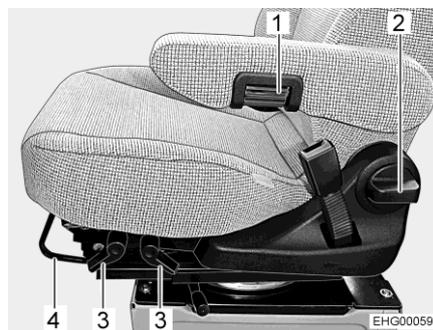

Fig. 14 Seat adjustment (Aguti GIS-Liner)
- Pull the bar (Fig. 14,4) upwards.
- Pull the respective lever (Fig. 14,3) upwards.
- Turn the handle (Fig. 14,2).
- Turn the knurled wheel (Fig. 14,1) for fine adjustments. The armrest inclines upwards or downwards, depending on the rotation direction.